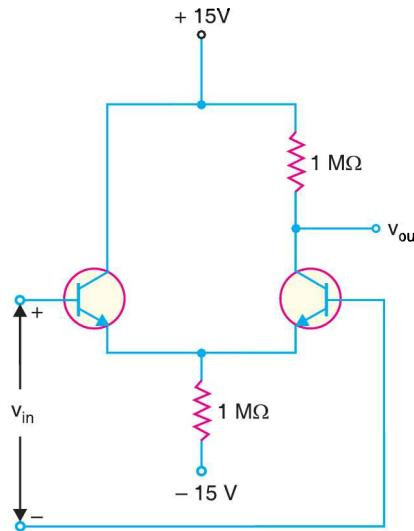

Fig. 25.31
**Example 25.14.** What is  $v_{out}$  in Fig. 25.31 when (i)  $v_{in} = 1\text{mV}$  (ii)  $v_{in} = -1\text{mV}$ ?